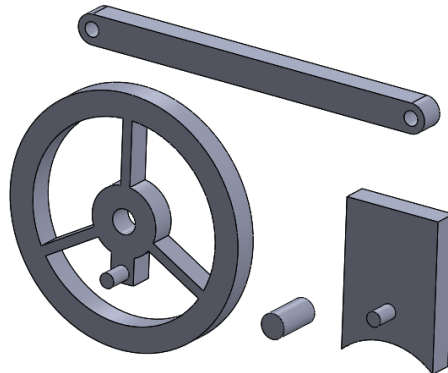

Figure 2-45 Blocks after being converted into parts
25. Click on the confirmation corner to exit the Part environment. Figure 2-45 shows the blocks after they have been converted into parts.